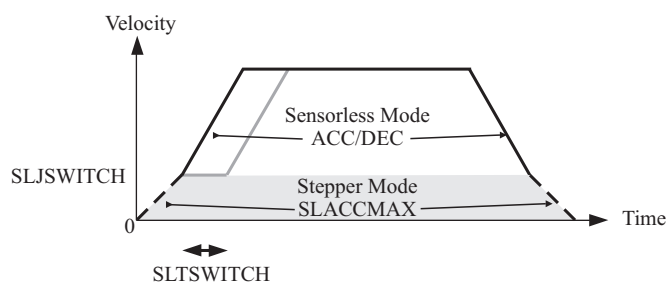

Figure 0.2: Transition between stepper and sensorless mode
3. At this point, parameters for current controller (MLGQ & KTN) and for velocity controller (GV & GVTN) are already set, maybe according to the Motor-Name or set by the user. Most of the parameters have not big influence in sensorless performance, but GV and specially GVTN. As mentioned, sensorless-mode is not as dynamic as sensor-mode. For that reason, the proportional part of the velocity controller (GV) should be small and integral part (GVTN) should be slow. For GVTN, values under 30ms will crash the sensorless completely. A value around 100ms is expected to show good performance
4. As a matter of principle back-EMF, sensorless mode cannot work at zero or very low speeds. Therefore at zero and low speeds, a feed-forward stepper-mode is used. The user should set two parameters to decide a threshold velocity (SLJSWITCH) and a transition time (SLTSWITCH) between stepper and sensorless modes. For SLJSWITCH a value of 10% nominal speed or higher is mandatory. SLTSWITCH defines a time in which the motor remains at speed SLJSWITCH to let the observer integrators settle (grey line in Fig. 0.2). SLTSWITCH can often be set to zero so that the transition will be done instantaneously (black line in Fig. 0.2). SLTSWITCH can be used only in the acceleration slope, while SLJSWITCH is present in acceleration and deceleration slope as well